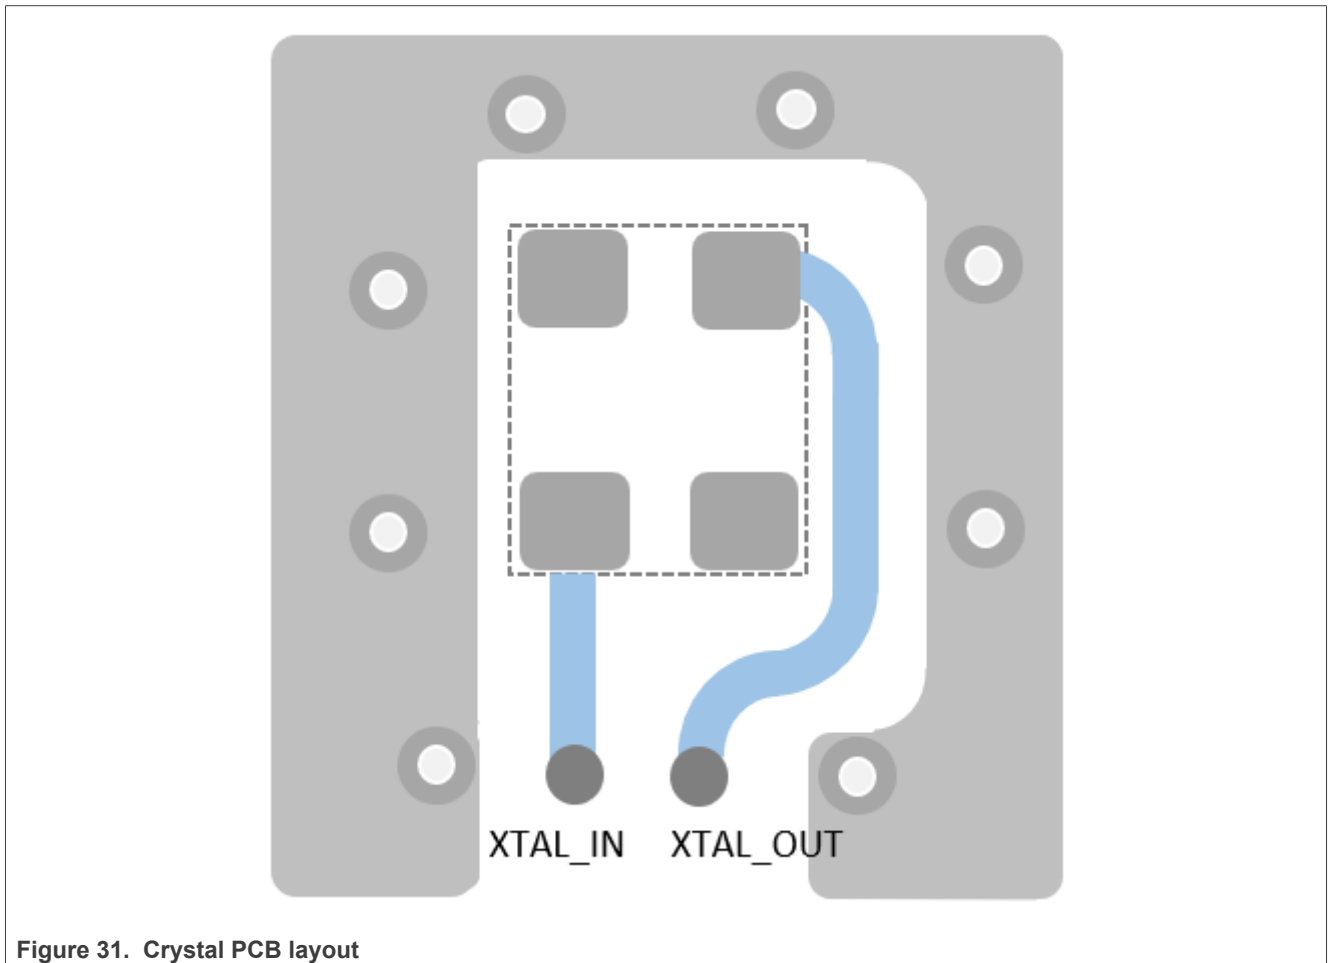

Figure 31. Crystal PCB layout
- Keep XTAL\_IN and XTAL\_OUT traces as short as possible, as shown in Figure 31.